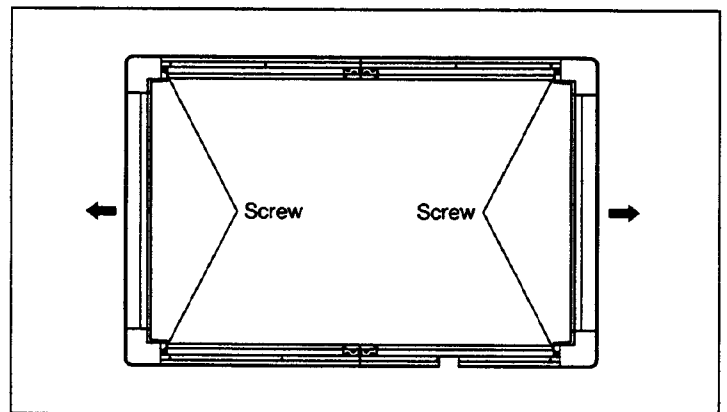

Fig. 5-15
- 4) Remove 4 screws, as shown in Fig. 5-15, and remove the frame covers with the corner frame cover attachments.
- 3) Remove 4 screws [same as shown in Fig. 5-15], and remove the frame covers with the corner frame cover attachments.